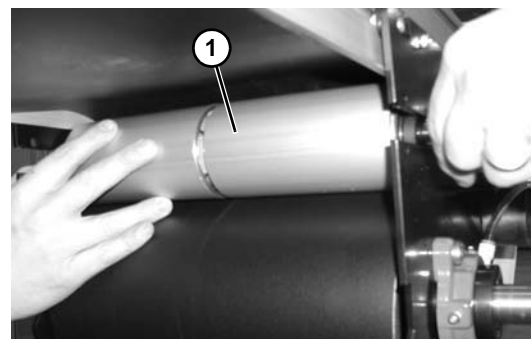

Figure 106
7. Slide out tensioning pulley (**Figure 106, item 1**).